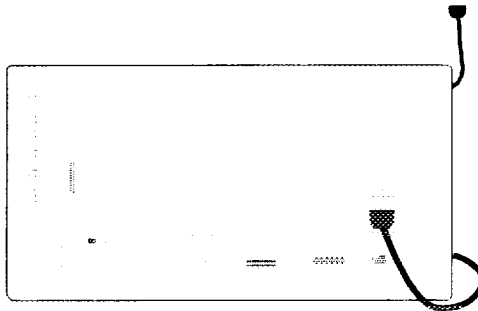

Figure 1-5. Power Cord Connection
- 1 Connect the line-power cord to the instrument's rear-panel connector. Refer to Figure 1-5.
- 2 Connect the other end of the line-power cord to the power receptacle. Refer to Figure 1-5.